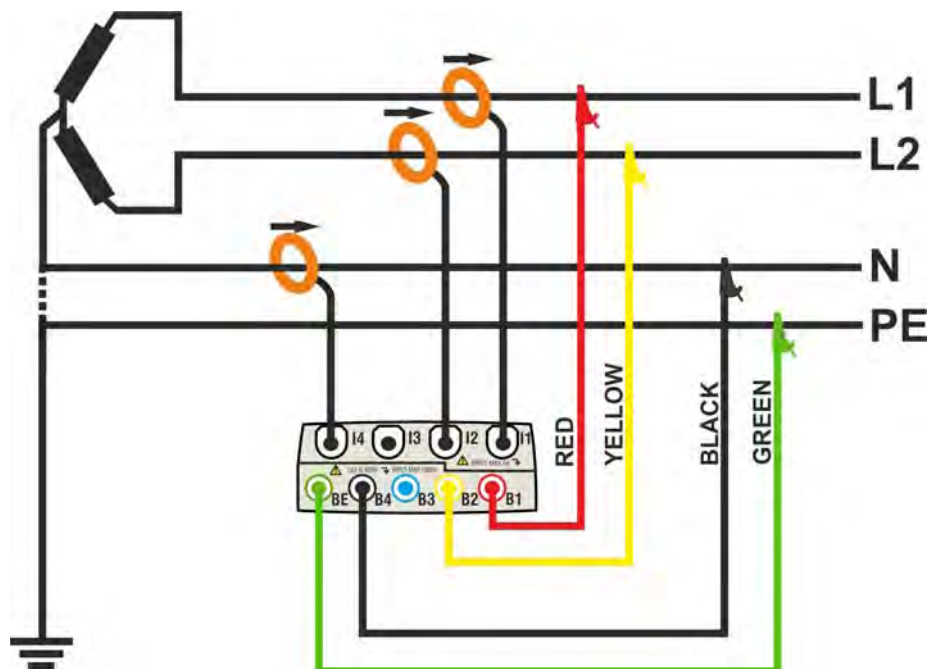

Fig. 127: Meter connection in a two phase 3-wire 3P 2E system – ENG_UK type
2. Connect voltage test leads on Phases L1, L2, N and PE cables considering the colours as shown in Fig. 127
3. Connect the transducer current clamps on Phase L1, L2, N cables as shown in Fig. 127 respecting the clamp's arrow direction indicating the current standard sequence from generator to load. **On Real Time Values' section screens (selecting a 3 wire system preliminarily) always verify the positive value of Active Power and the power factor relative to load which should be normally inductive before starting a recording.** Reverse the clamp by 180 degrees on cables in case of negative readings.